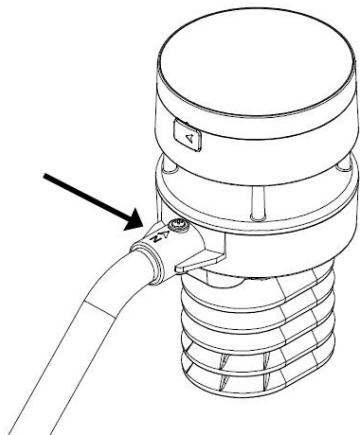

Figure 6
4. There is an arrow icon with "N" words (Figure 6) representing the direction of North. The sensor body has to be adjusted so that the "N" indication is facing to real north direction in your location. A compass device is recommended to help adjust direction. Permanent wind direction error will be introduced when the outdoor sensor is not installed in right direction